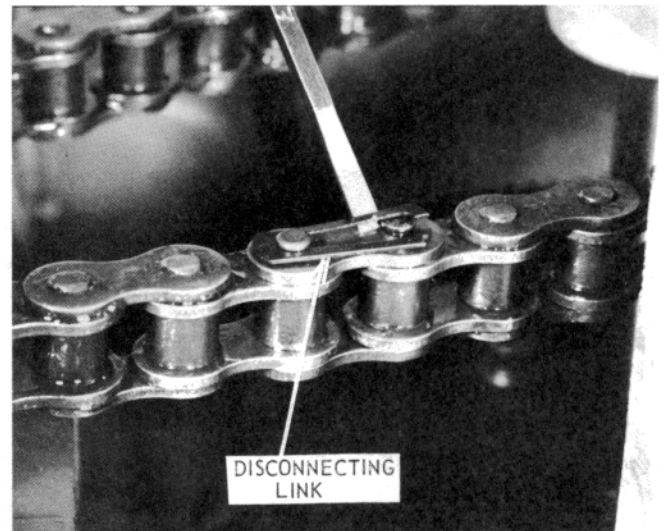

Figure 45 – Chain Disconnecting Link
- 2.1.5 Remove the disconnecting link (see Figure 45 and 46). If the disconnecting link is not in an accessible position, plug in the trap and rapidly turn the trap "On" and "Off" to slowly jog the chain to a position where the disconnecting link can be reached.